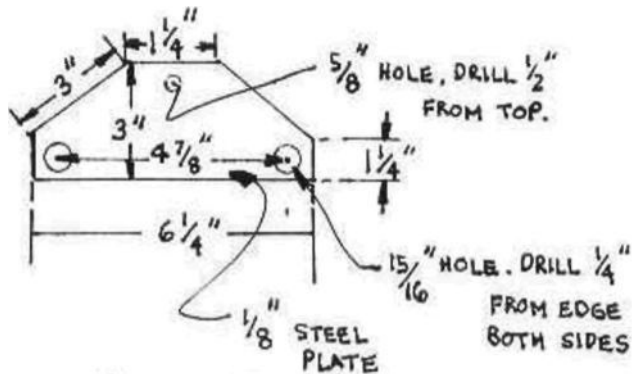

FIGURE 7
6. Make 2 pieces as shown in Figure 7 out of 1/8" plate steel. There is a full size pattern on the back of this sheet. Using 5/8" bolts to line up the plates and the axle, weld the front fork assembly as shown in Figure 8.